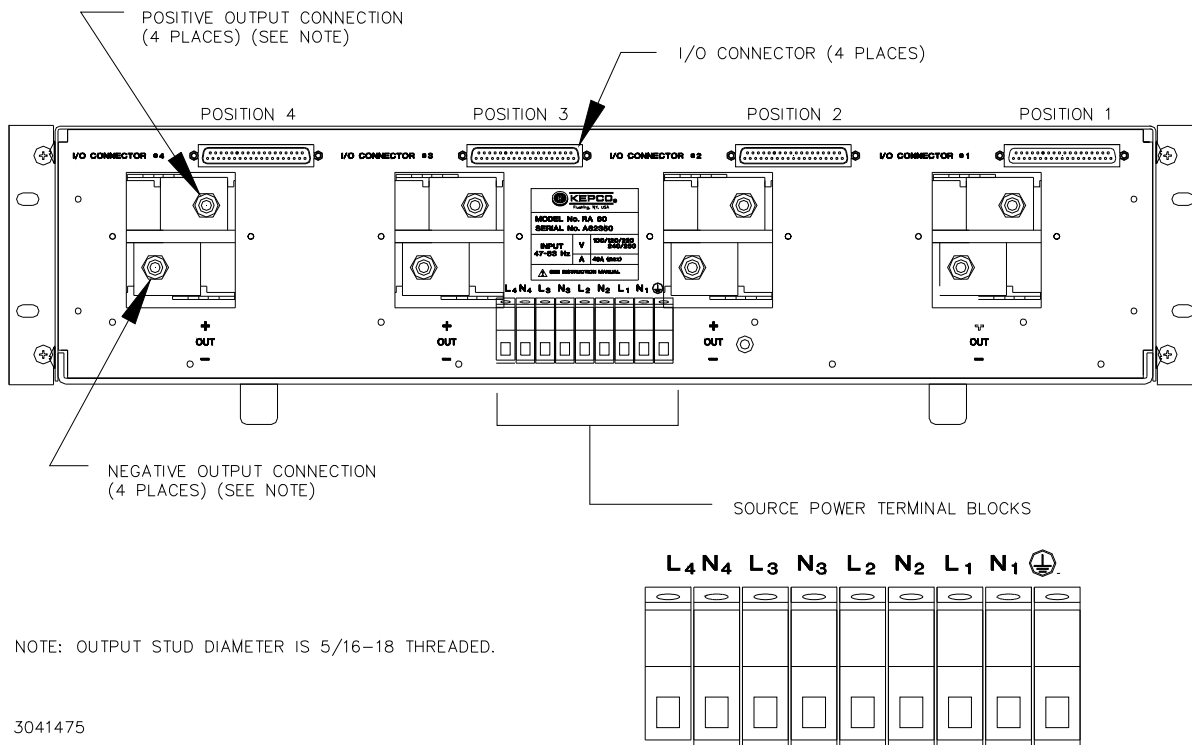

FIGURE 2-2. REAR PANEL CONNECTIONS
All input, output and control terminations are located on the rear panel of the rack adapter (see Figure 2-2). Other than module keying (Para.2.2), no adjustments or alignments are required.
The rear panel of the RA 59 rack adapter (Figure 2-2) includes nine terminal blocks to allow for individual connection of single-phase a-c and d-c input power to each position, These terminal blocks are labeled LI, NI, L2, N2, L3, N3, L4, N4, and G. Each terminal block will accommodate up to #6 AWG (16mm²) or equivalent conductor size. Their functions are as follows:
- **Terminal pairs L1/N1, L2/N2, L3/N3, L4/N4** are connected to the high-side and low-side contacts of the source power connectors for each of the three power supply mounting positions (1, 2, 3 and 4) of the rack adapter (see Figure 2-2). Each terminal pair (Lx/Nx) is isolated from the remaining two pairs, facilitating redundant source power connections if desired. The conductor used to connect terminals Lx and Nx to source power must be sized for the 16 ampere maximum source current drawn by HSP Series power supplies; Kepco recommends #14 AWG (2.5mm²) or equivalent minimum conductor size to support this current.
Access to the control signal (I/O) connector for each HSP power supply is provided via the four 37-pin D-subminiature connectors on the rear panel of the rack adapter (see Figure 2-2). Four mating connectors (Kepco PN 142-0422) are provided in a plastic bag. These connectors are simply extensions of the identical connectors located on the HSP power supplies. Consult the HSP operator's manual for instructions on wiring and use of these control lines.
Load connections to the rack adapter is achieved via the stud pairs located on the rear panel directly behind each mounting position (see Figure 2-2). Required hardware for attaching output cables are assembled to the output studs. The RA 59 rack adapter employs a modular bus bar system to permit a variety of load configurations; it is shipped with all four positions configured for independent operation. The following sections describe additional output bus bar configurations available with the RA 59 rack adapter. Additional information regarding these and other load interface requirements are contained in the HSP operators manual.